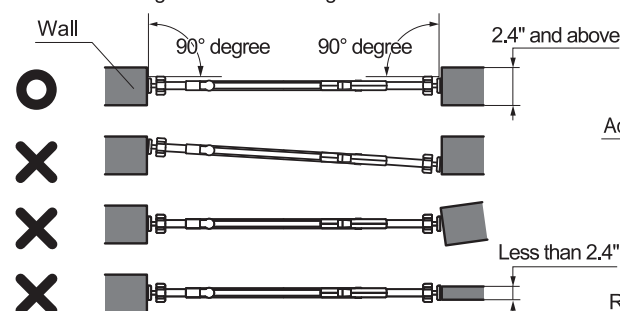
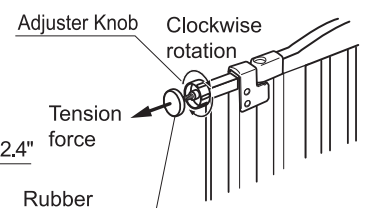

Figure 2
Figure 3
- If the product has been installed correctly, the top of the gate (while looking down from above the top) will be as straight as a line with each end aligned at a 90-degree right angle as shown in Figure 2.
- 1 Determine the desired direction for the door opening. Set the product against the wall at a perpendicular right angle as shown in Figure 2. Tighten the upper Adjuster Knob until the rubber of the Adjuster Knob touches the wall surface as shown in Figure 3.